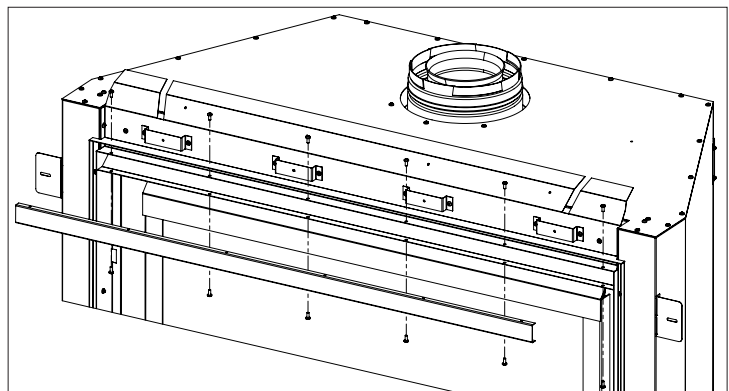

Figure 46: Front Cover Removal
- Step 2.** Remove CSS front cover using a T-20 screwdriver (see Figure 46).